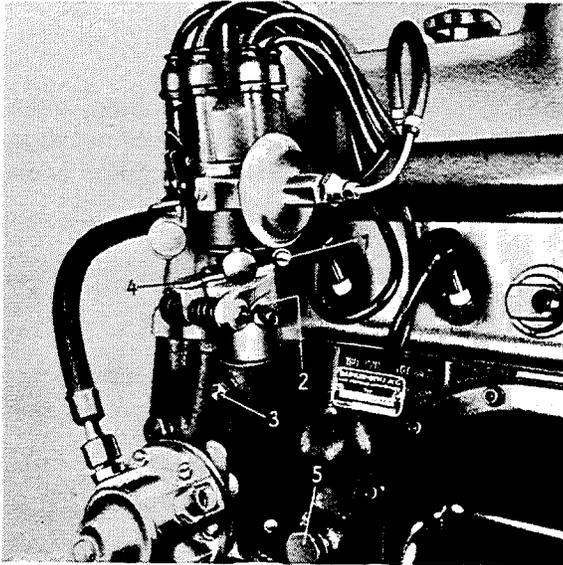

Fig. M 3/9
4. Turn out the two hollow screws for the vent line from water pump to cylinder head and take the line off (see Fig. M 3/80). Unscrew water pump with pulley from cylinder crankcase.
9. Loosen cheese-head screw (1) locking the adjusting lever as well as trunnion screw (2) securing the distributor. Pull out distributor support with adjusting lever (4) after trunnion screw (3) has been loosened (Fig. M 3/9).